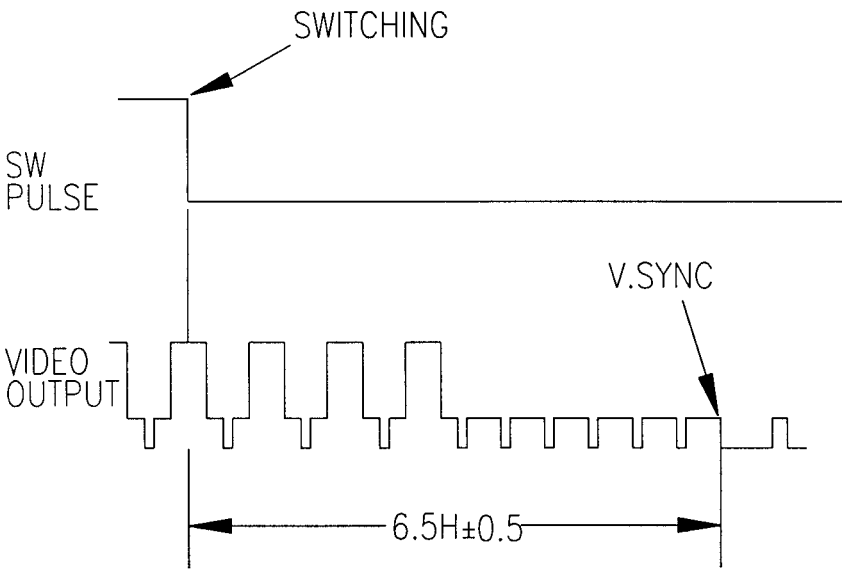

Fig. 5-6 PLAYBACK PHASE ADJUSTMENT
F. PLAYBACK PHASE ADJUSTMENT (See Fig. 5-6)